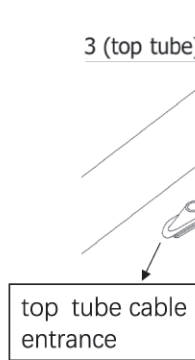

Figure 50-2.
c. Find the top-tube cable entrance in the accessory bag and open it from the middle cut. After opening, wrap it around the rear brake line and instrument sensing line and clamp it into the hole of Part 3 with the opening towards the front wheel, as shown in Figure 50-2.